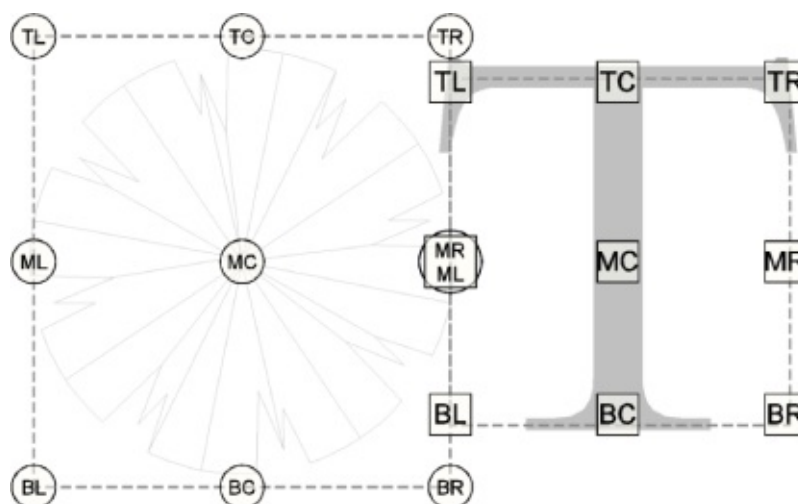

Figure 18.11 Border types shown on various surface label styles
2. **Type** This option allows you to select a rectangle, a rounded rectangle (slot), or a circle border. Figure 18.11 shows examples of the three types of borders.
Background Mask This option lets you determine whether linework and text behind this component are masked. This option can be handy for construction notes in place of the usual wipeout tools. The surface labels in Figure 18.11 show the background mask in action.